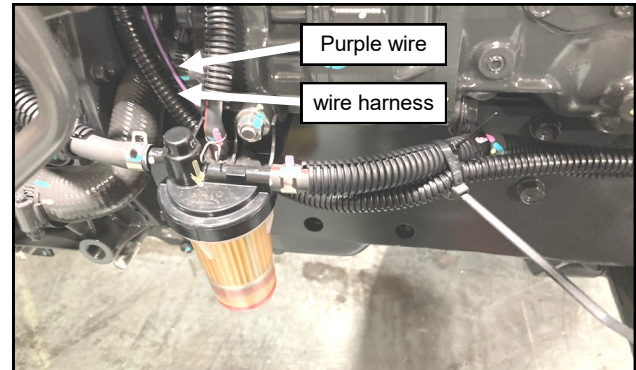

Fig. 11.2 (wire harness - right side of engine bay)
**11.2** Per figure 11.2, feed the switch end of the switched power harness (see page 23) along with the purple wire from the right side of the tractor to left, behind the engine.